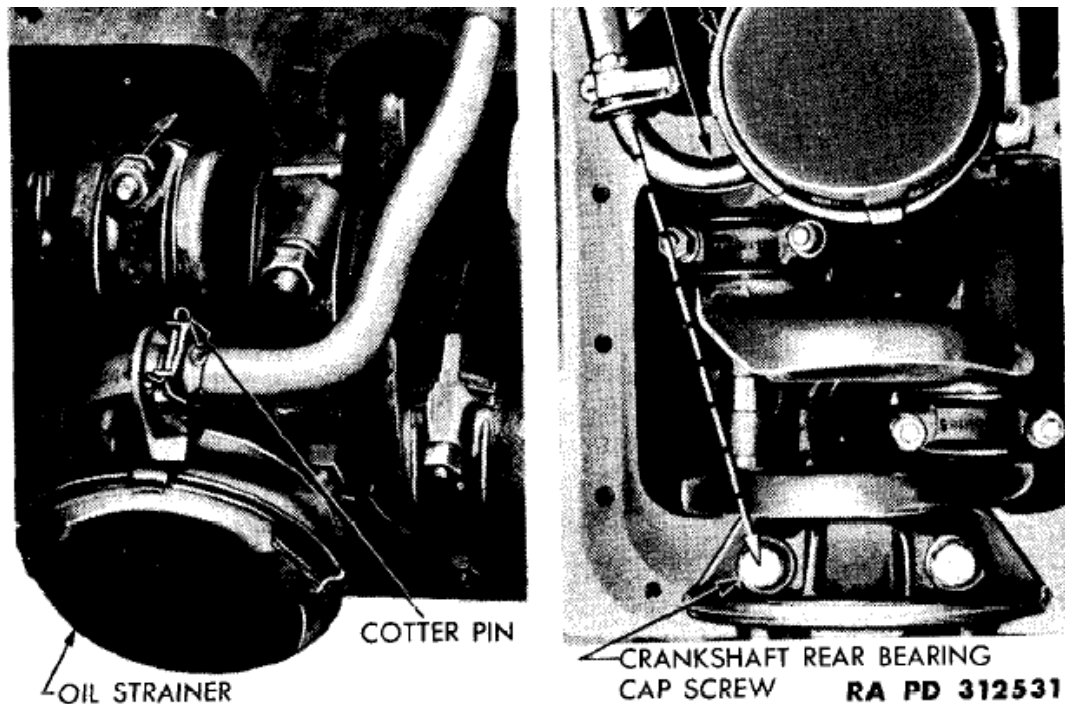

Figure 66—Floating Oil Strainer
(1) **INSTALL OIL STRAINER** (fig. 66). Position plate on strainer and close the plate lips. Then connect strainer to the oil pump suction pipe and insert new cotter pin. Make sure the strainer is positioned so that its movement is not restricted by the oil pan baffles. Aline strainer assembly so that pipe is in relation to crankshaft rear bearing cap screw as shown in figure 66.